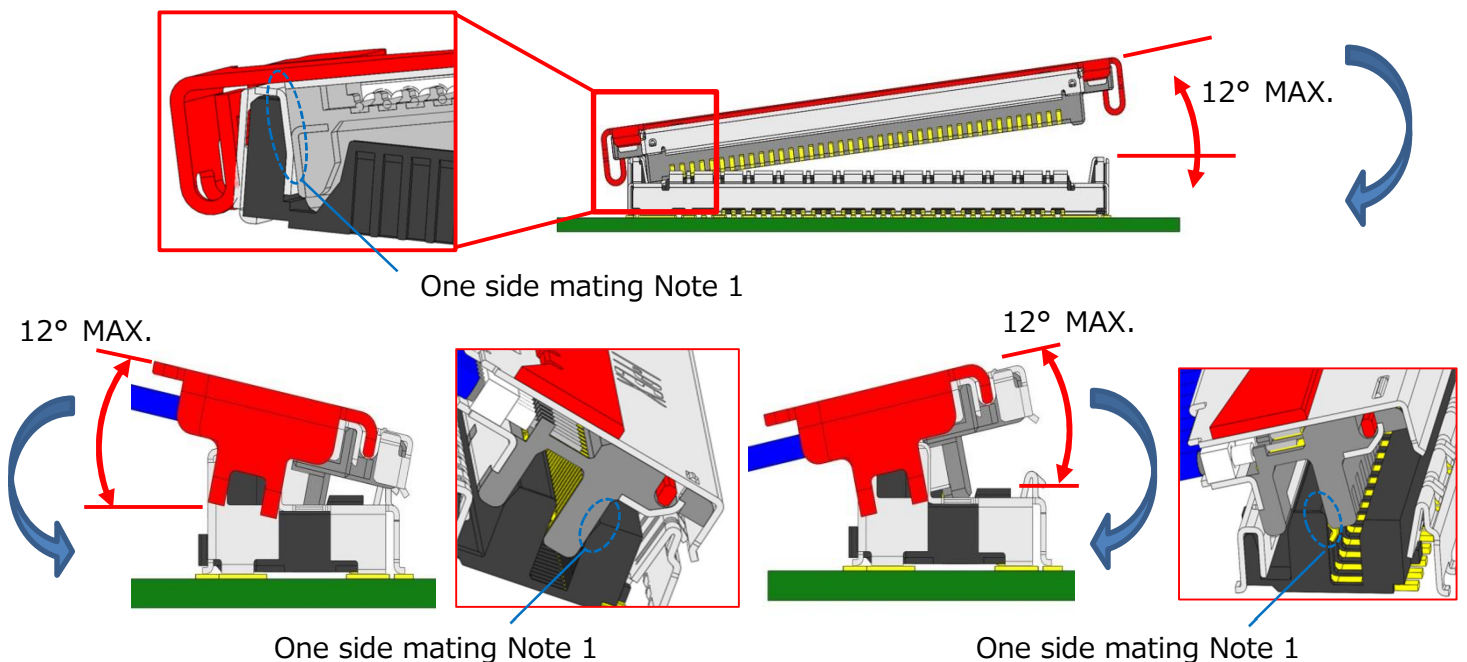

Fig.8 Insertion angle allowance
The insertion angle in the height direction is within 12° as shown in Fig.8.
- The initial connector insertion angle allowance is given in Fig.8. Please set so that it becomes parallel without applying excessive force afterwards. Do not force to press cable connector when the insertion angle is out of this allowance angle.